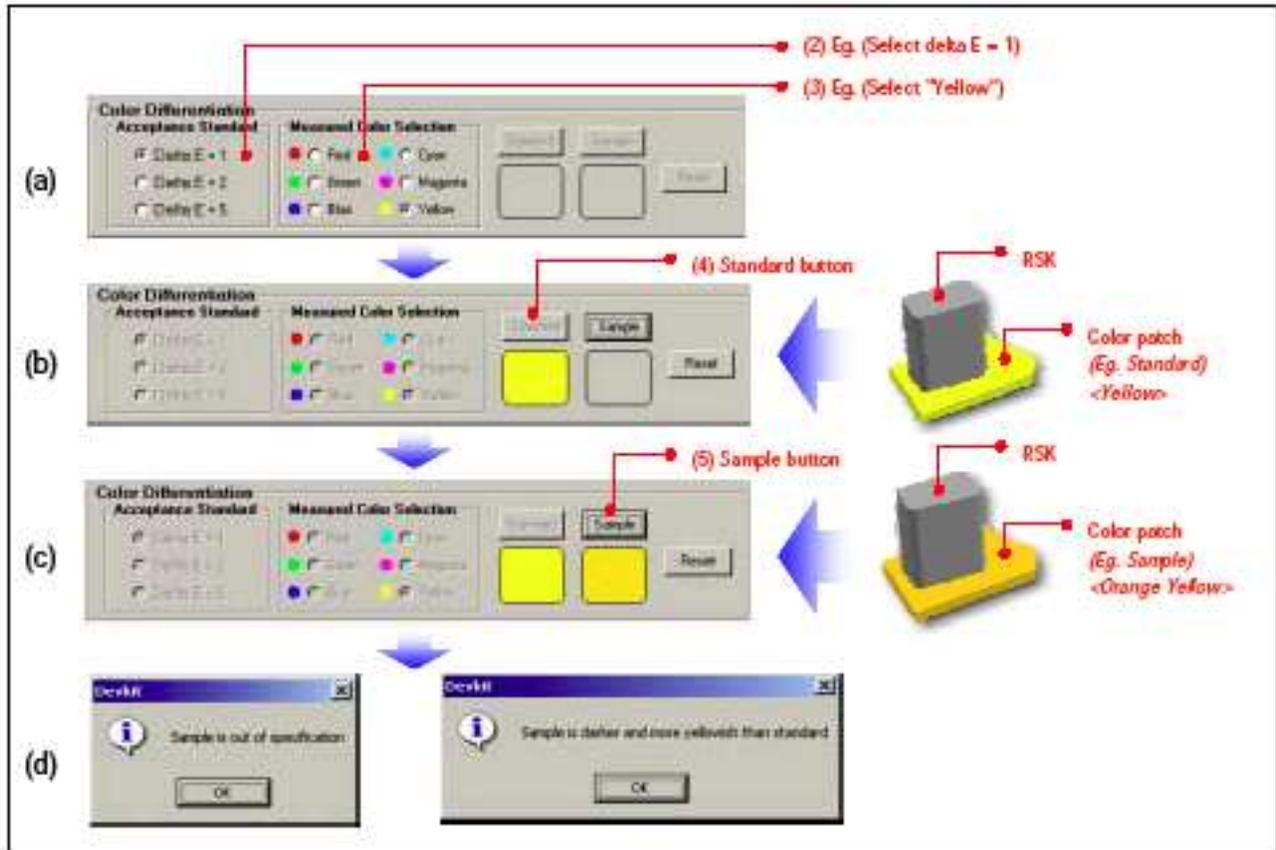

Figure 7.4
2. Select the acceptance standard (e.g., delta E = 1), as shown in Figure 7.4(a).
3. Select the types of color to be measured (e.g., Yellow), as shown in Figure 7.4(a).
4. Place RSK on standard color patch and click once at the "Standard" button to store chromaticity and lightness information into database. Refer to Figure 7.4(b).
5. Next, place RSK on sample color patch and click once at the "Sample" button to store chromaticity and lightness information into database. Refer to Figure 7.4(c).
7. User will be prompted with a message box of the result of comparison i.e., either within or out of specification, as well as prompting the L*a*b* color space information. Refer to Figure 7.4(d). (e.g., In this case, Yellow is a Standard whereas Orange Yellow is a Sample, so identify that sample is yellowish than standard.)